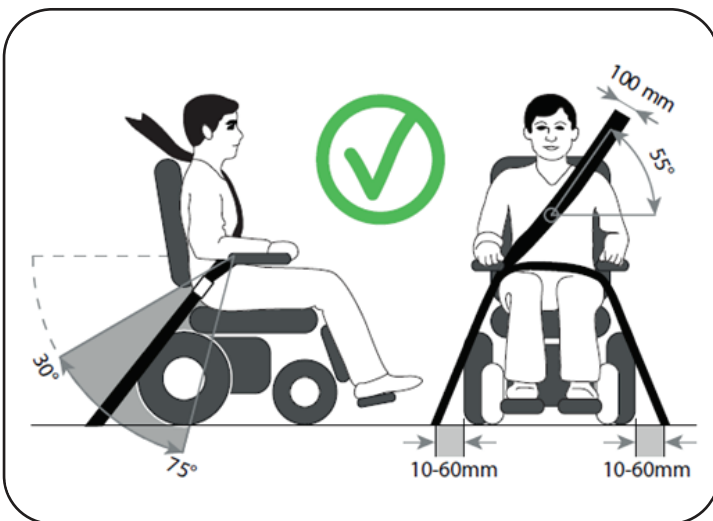

Figure 4
- The pelvic restraint belt must be worn low across the front of the pelvis so that the angle of the pelvic belt is within the optional or preferred zone of 30° to 75° to the horizontal. A steeper (greater) angle within the preferred zone, 45° to 75° is desirable i.e. closer to, but never exceeding 75° (see Figure 4).
- The upper torso restraint belt must fit over the midpoint of shoulder and across the chest as illustrated (see Figure 4).